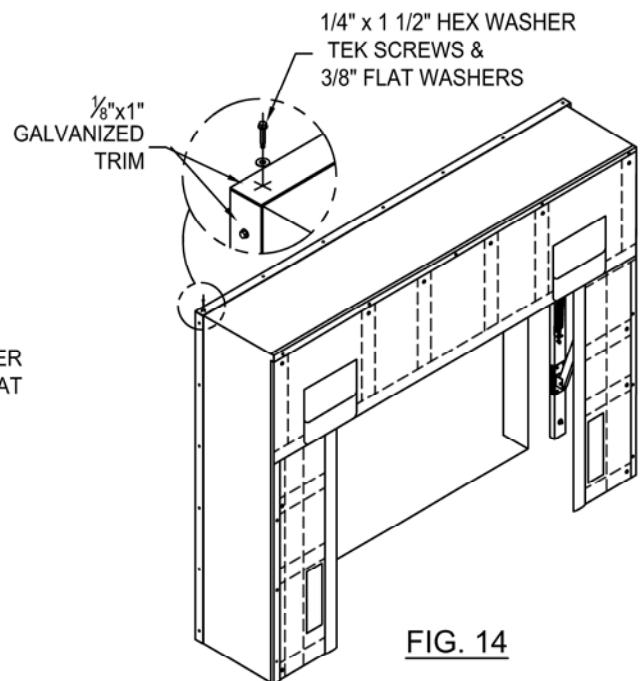

FIG. 14
- *Fasten the 1/8"x1" galvanized trim flush with the outside frame of the unit and building wall, using 1/4" x 1 1/2" hex washer tek screws & 3/8" flat washers (fig. 14).